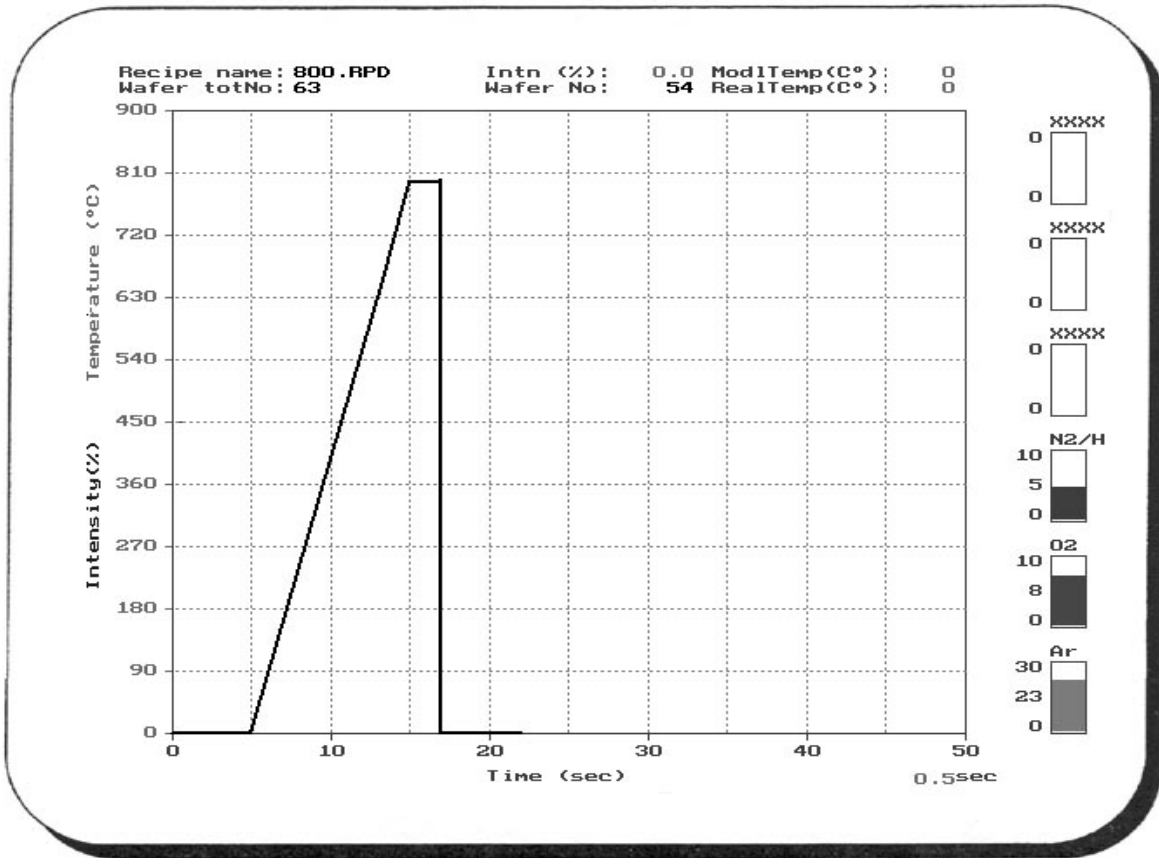

Figure 3-9. Process Run Screen
5. After initializing, the **Process Run** screen will appear (see **Figure 3-9**). The **Process Run** screen shows the process data in real-time. All process parameters are displayed on the screen, both the recipe values and the actual measured values.